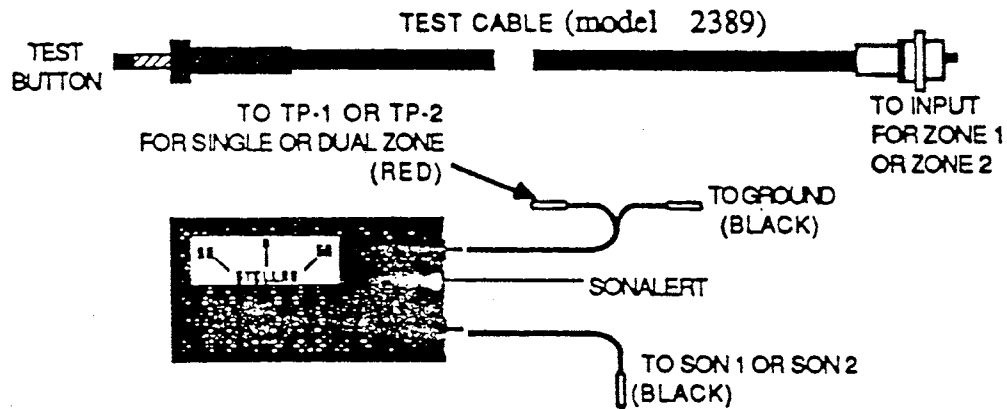
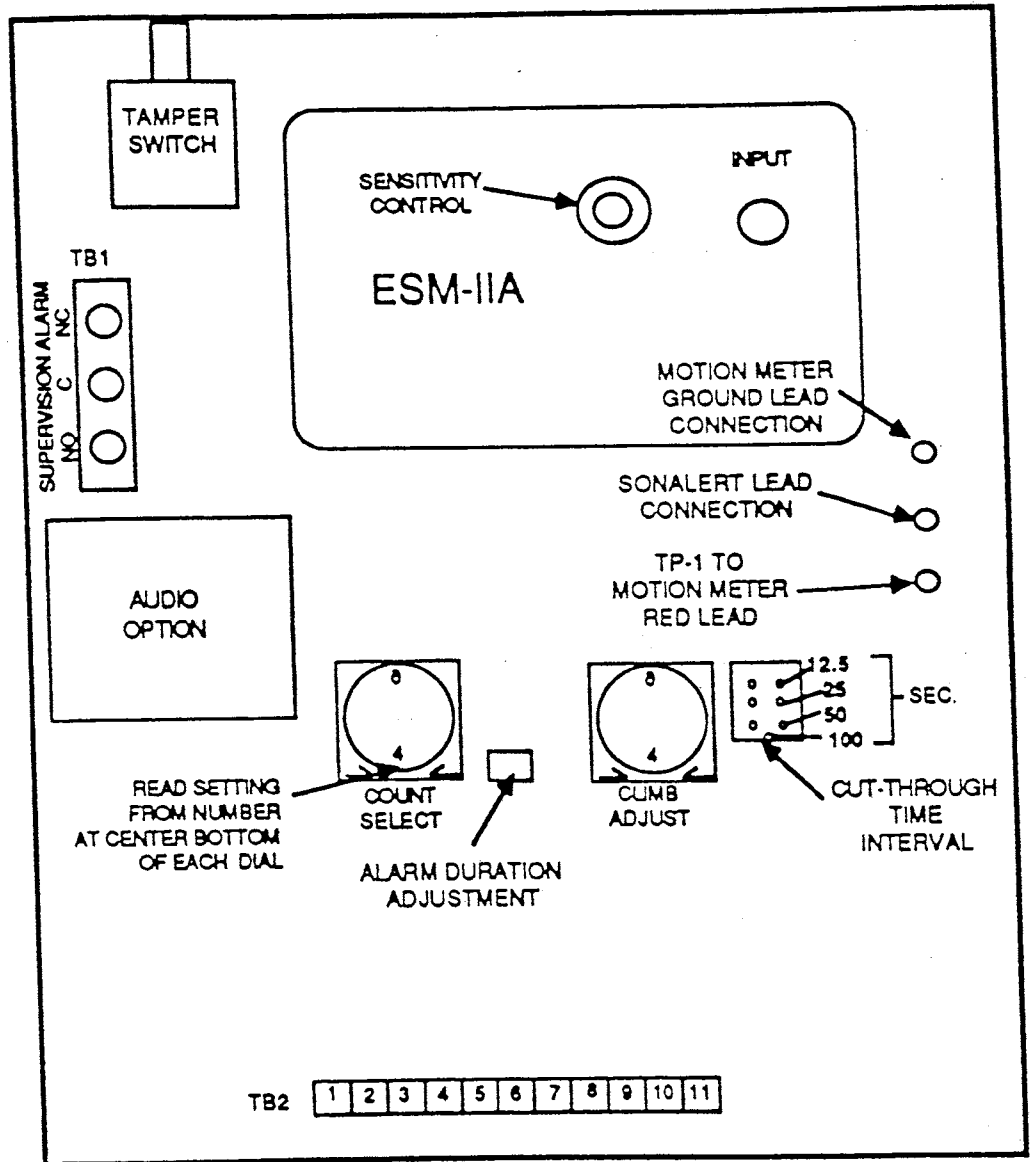
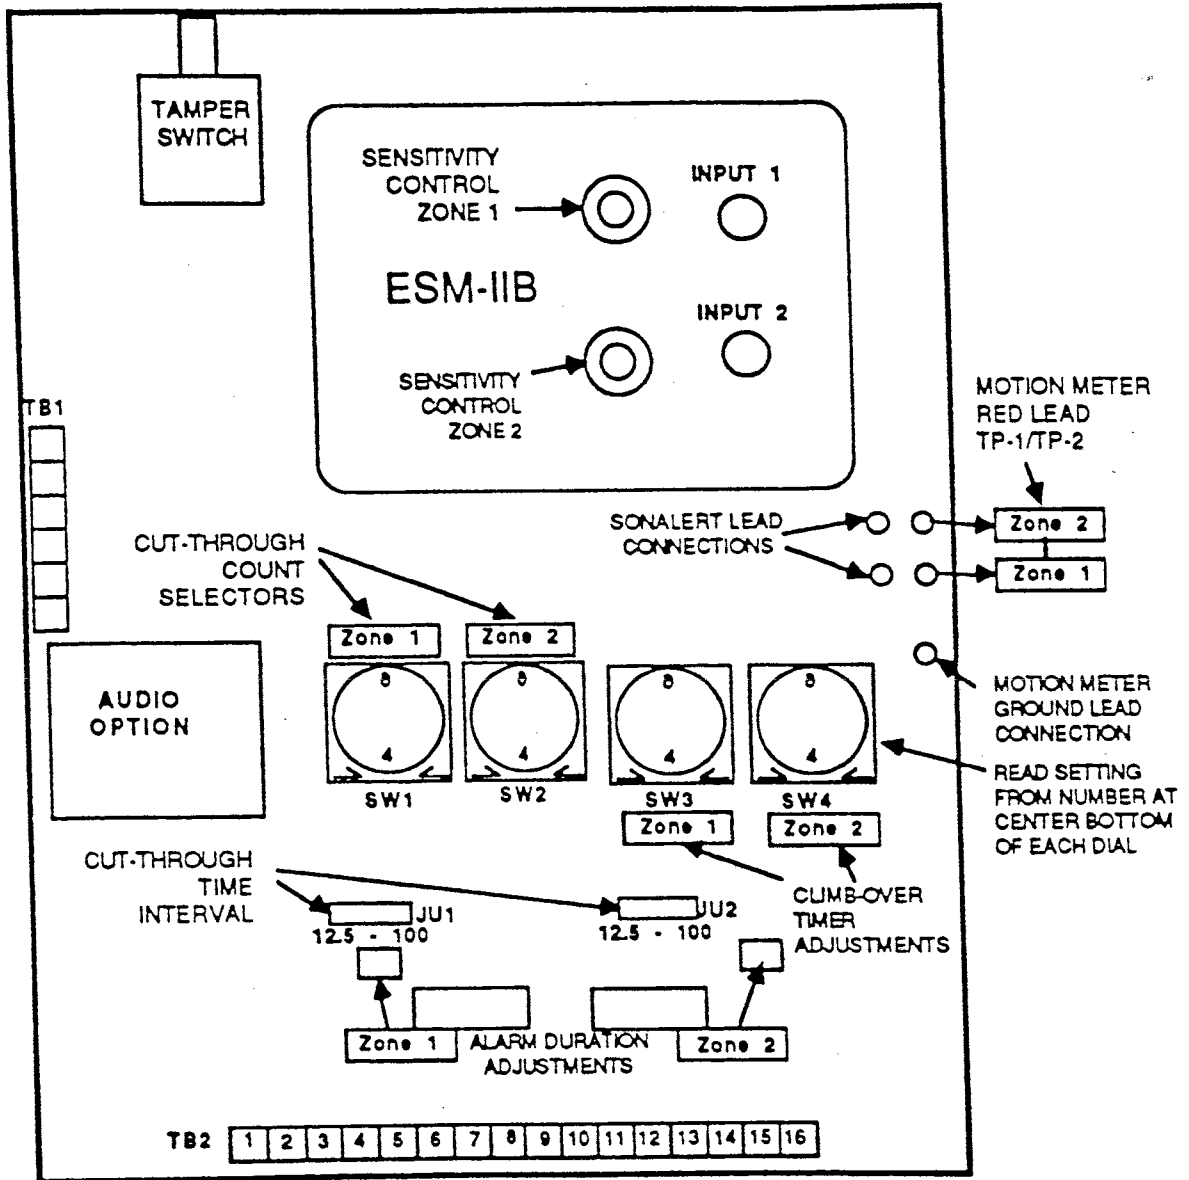

Figure 5-1. Motion Meter/Sonalert and Test Cable
Figure 5-2. Single Zone E-Flex IIA Calibration Points
Figure 5-3. Dual Zone E-Flex IIB Calibration Points
All processors have a variable alarm duration. The length of the signal is adjusted with a trimpot adjustable from 0.5 seconds CCW to 5.0 seconds CW. The processor alarm is factory adjusted to 2 seconds. The trimpot location is shown in Figures 5-2 and 5-3.
Motion meter (model 2391), and test cable (model 2389) are used to test or calibrate an E-Flex II installation. Refer to Figure 5-1. Calibration test points for single zone processors are shown in Figure 5-2 and for dual zone processors in Figure 5-3.
2. Connect the motion meter leads to points indicated in Figure 5-2 (5-3 if dual zone).
19. The alarm timer is factory set at 2 seconds. It is adjustable from 0.5 to 5 seconds if necessary. Refer to Figure 5-2 (5-3 if dual zone).